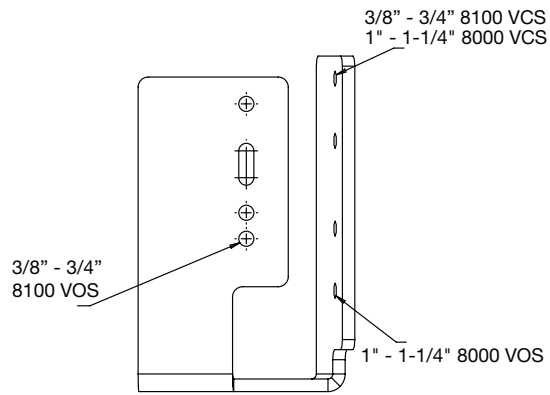

Figure 2: IP67 Switch Bracket
- Note wand position and mounting hole location. Carefully remove the 2 screws and lift existing switch. Reference Figures 2 through 5 (page 10-30.4-45) to ensure correct switch location.
- Reference Figures 2 through 5 to ensure correct switch location. Valve size is depicted in the model number by the first 4 digits. For example, a 1-1/4" H valve should have Model No. 125H.